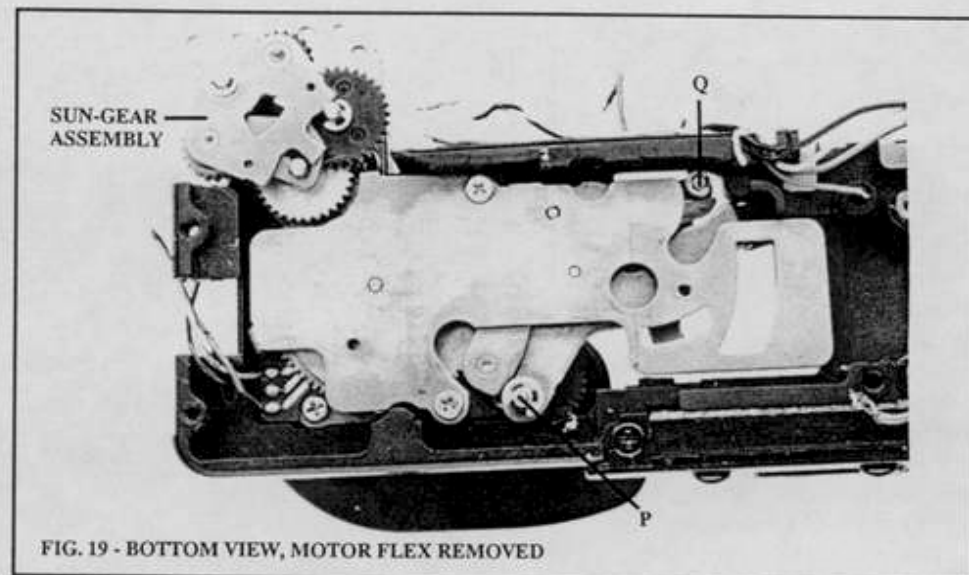

FIG. 19 - BOTTOM VIEW, MOTOR FLEX REMOVED
2. **Charge motor M2.** Inside grip, front release side, Fig. 10. Turns the gears at the bottom of the camera to charge the mirror and shutter. For the different drive speeds, the camera changes the current direction through the charge motor. Changing the direction of rotation changes the gearing. When M2 runs in the high-speed direction, the changeover lever moves as shown in Fig. 3. Running M2 in the low-speed direction moves the changeover lever to the position shown in Fig. 19. The rotational speed of the charge motor doesn't change.